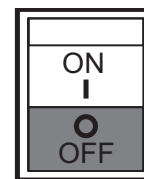

Figure 19. Idle Control Switch (OFF)
8. Place idle control switch (Figure 19) in the **OFF** position. This will allow the engine speed to run at about 3600 RPM's (**high speed**).
Placing the idle control switch in the **OFF** position (Figure 19) allows the engine to operate at a maximum speed of about 3600 RPM's.